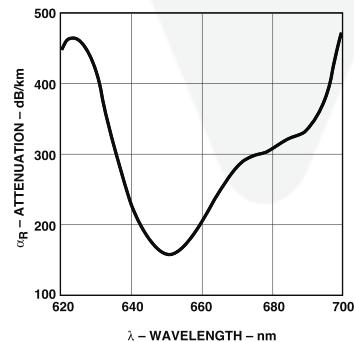

Figure 1. Typical POF attenuation vs. wavelength.
7. Note that $α_R$ rises at the rate of about 0.0067 dB/°C, where the thermal rise refers to the LED temperature changes above 25°C. Please refer to Figure 1 which shows the typical plastic optical fiber attenuation versus wavelength at 25°C.